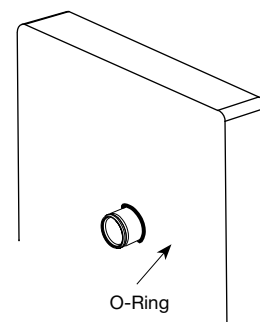

Fig.6C
2. Place the O-ring around the weather conduit on the outside and up against the door (Fig. 6C)